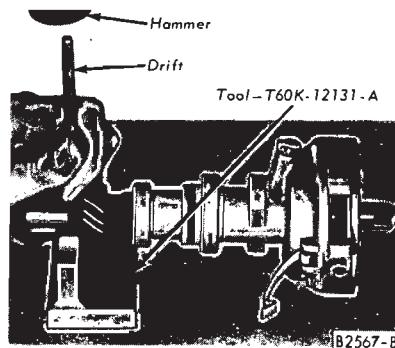
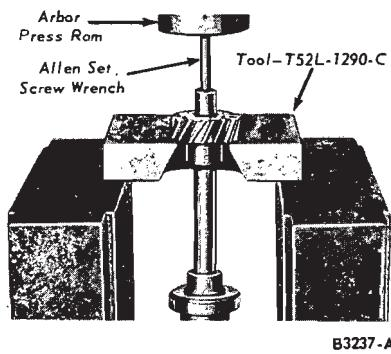
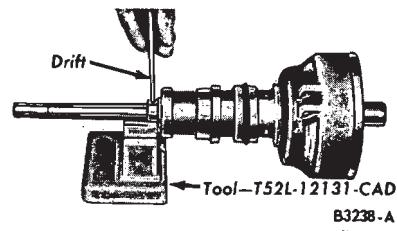

FIG. 8—Removing or Installing Typical Gear Pin
FIG. 12—Removing Gear V-8 Engine
FIG. 13—Removing or Installing Collar Pin
14. If the gear and shaft are to be used again, mark the gear and the shaft so that the pin holes can be easily aligned for assembly. Remove the gear roll pin (Fig. 8).
2. If the gear and shaft are to be used again, mark the gear and the shaft so that the pin holes can be easily aligned for assembly. Remove the gear roll pin (Fig. 8), and then remove the gear (Fig. 12).
3. Remove the shaft collar roll pin (Fig. 13).
7. Remove the distributor from the press. Install the gear retaining pin (Fig. 8).
3. Remove the distributor from the press and remove the support tool. Install the gear retaining pin (Fig. 8).
5. Remove the distributor from the press and remove the support tool. Install the collar retaining pin (Fig. 13) and the gear retaining pin (Fig. 8).